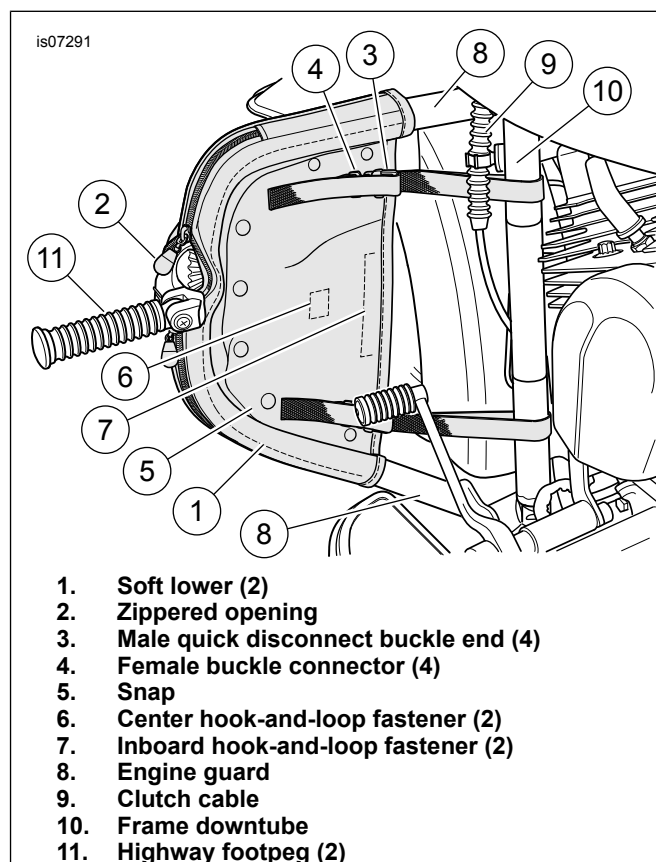

Figure 1. Softtail Engine Guard Soft Lower
See Figure 1. The zippered opening (2) along the outer edge allows the soft lowers to fit with highway footpegs (11).
1. Select one of the soft lowers (1), and slip it over the correct side of the engine guard (8).